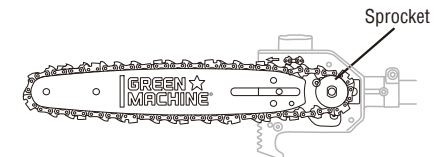

Fig.7B
2. Place the saw chain around the sprocket with the cutting teeth corresponding to the direction of the symbol on the housing. (Fig. 7B)